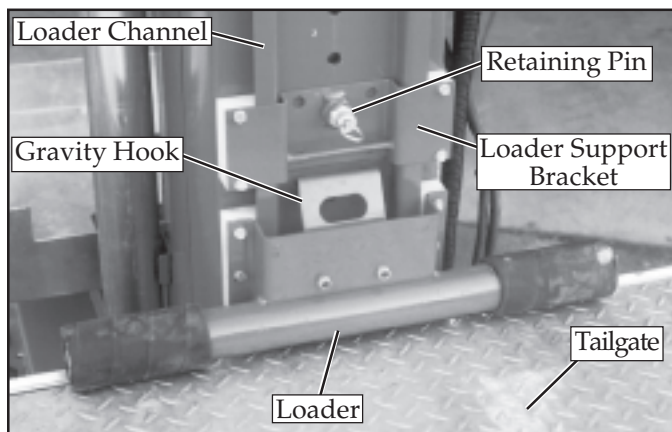

Figure 5: Loader in load position
1. Raise the loader support bracket and engage the retaining pin in the top hole of the loader channel (Figure 5).
2. Secure the loader to the loader support bracket with the gravity hook (Figure 5).
4. Release the gravity hook and slide the loader down until it comes into contact with the vehicle bed or tailgate (Figure 5). Then reposition the loader support bracket so the retaining pin is in the **first** available hole above the loader.